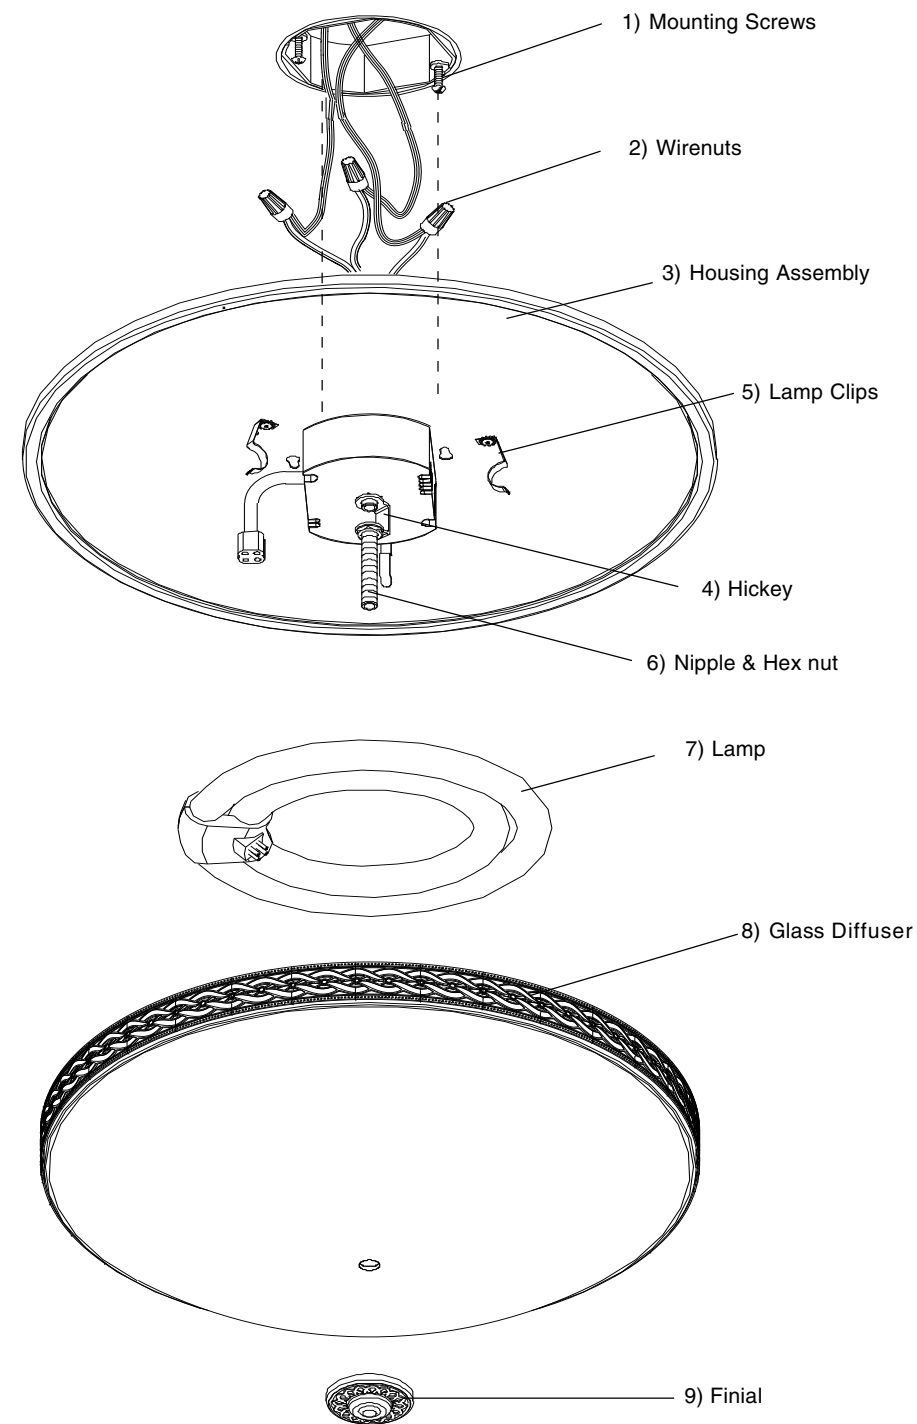

Figure 1
9. **Soulever le diffuseur en verre (8)** jusqu'au bloc boîtier et aligner le bloc d'alignement du diffuseur (6). Fixer à l'aide de la et du faîteau (9). **Voir la Fig. 1.**
2. **Fixture Assembly:** Thread Nipple with Hex nut (6) into Hickey (4), in center of Housing Assembly (3). **See Fig. 1.**
5. **Use Wirenuts (2) to connect black fixture wire to the black power supply wire and white fixture wire to the white power supply wire.** Tuck wires into junction box.
6. **Align keyholes on back of fixture Housing Assembly (3) with screws previously installed into junction box.** Lift fixture up, rotate clockwise and tighten screws to secure Housing Assembly against ceiling.
7. **With power prongs on Lamp (7) facing downward,** plug ballast power connector into lamp power receptacle. Position the Lamp over two Lamp Clips (5) and gently push lamp over the third clip while pulling the clip slightly back. **See Fig. 1.**
9. **Lift Glass Diffuser (8) up below Housing Assembly and align hole in Glass Diffuser with Nipple (6).** Secure Glass Diffuser with Finial (9). **See Fig. 1.**
9. **Levante el Difusor de Cristal (8) debajo del Ensamblaje de la Carcasa y alinee con el ensamblaje de Alineación del Difusor (8).** Asegure con la Finial (9). **Vea Fig. 1.**